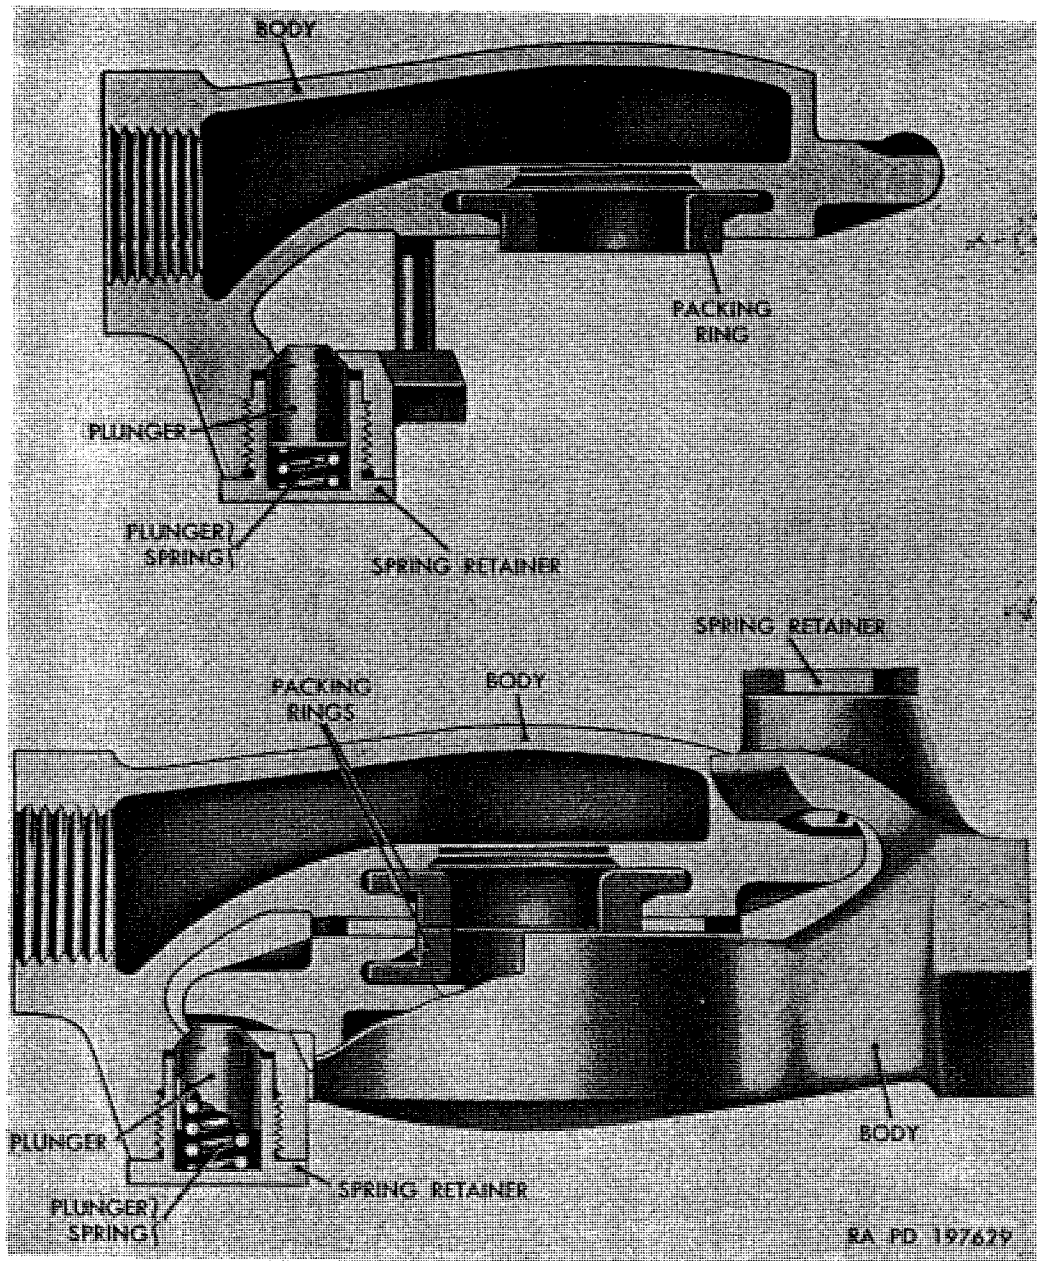
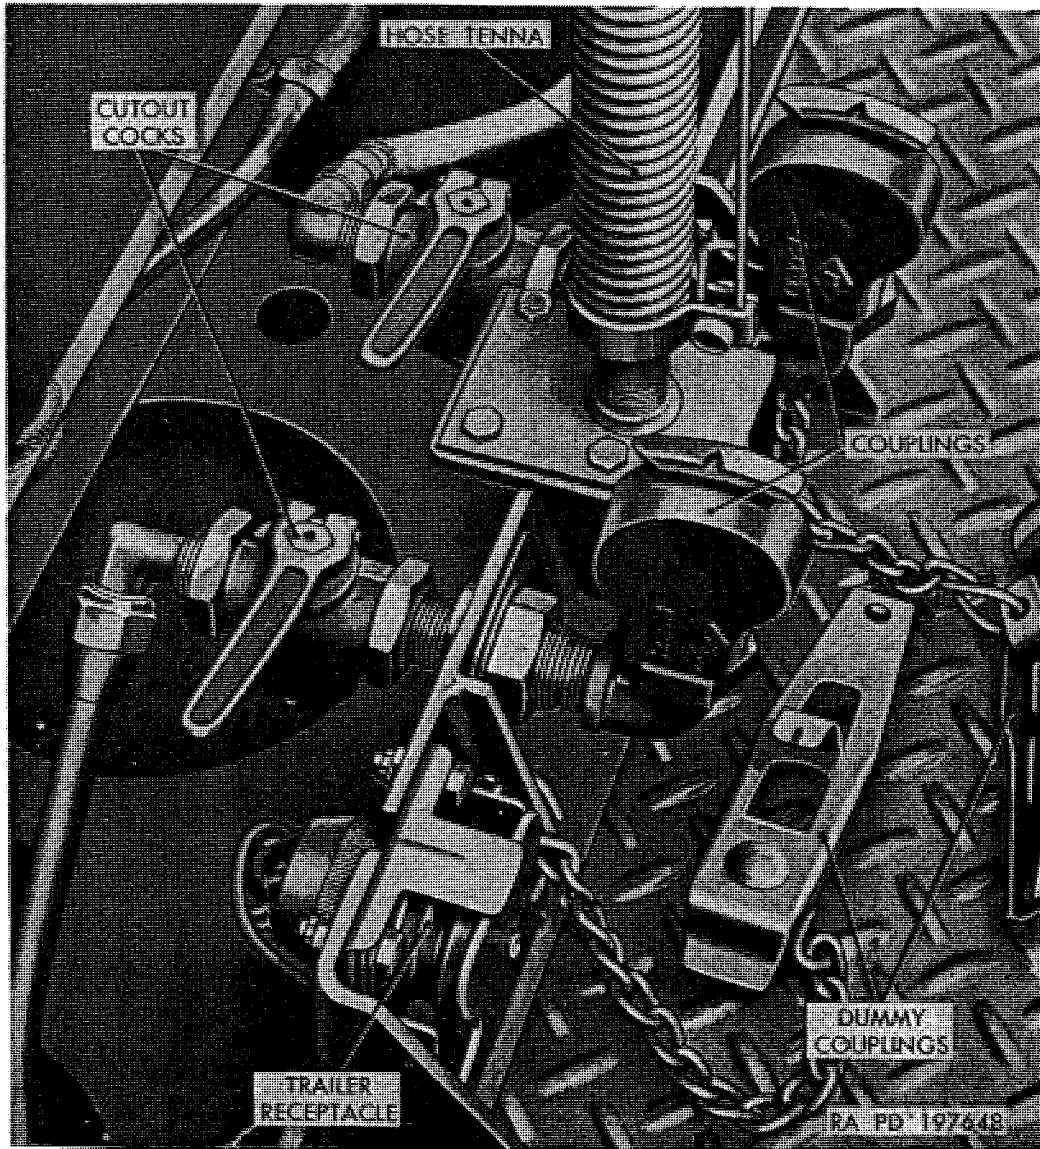

Figure 256. Sectional views of trailer brake hose coupling.
Figure 258. Trailer brake couplings and cutout cocks installed at rear of cab (M221).
a. General. Two air line couplings at rear end of vehicle on all models, except gasoline tank truck M217 and water tank truck M222 provide a means of connecting the trailer brake system to the truck brake system. Coupling on right side of vehicle, marked **EMERGENCY**, is connected directly to air reservoir on truck, and delivers a constant supply of air pressure to the trailer air system. Coupling on left side, marked **SERVICE**, is connected to the air-hydraulic cylinder control valve, and delivers air pressure to the trailer brake operating valve when truck brakes are applied. Dummy couplings, attached to frame brackets by chains, are provided to seal trailer air couplings against the entrance of dirt when not in use. A cutout cock at each trailer coupling provides a means of shutting off the trailer brake air lines when not connected to trailer. On truck tractor M221, two additional trailer couplings and cutout cocks are installed at rear of cab (fig. 258) for connecting truck brake system to semitrailer brake system. Couplings and identification markings are identical to those installed at rear of vehicle. Use of trailer brake couplings is described in paragraph 44. Figure 256 shows a sectional view of a single coupling and a view of two couplings connected. When the two couplings are connected together, pressure is placed on two rubber packing rings, making an airtight seal.
- (2) *Plunger and spring replacement* (fig. 256). Unscrew spring retainer from body of coupling and remove spring and plunger. Place new plunger and spring in spring retainer, thread retainer into coupling body, and tighten. Make sure nose of plunger extends through body.